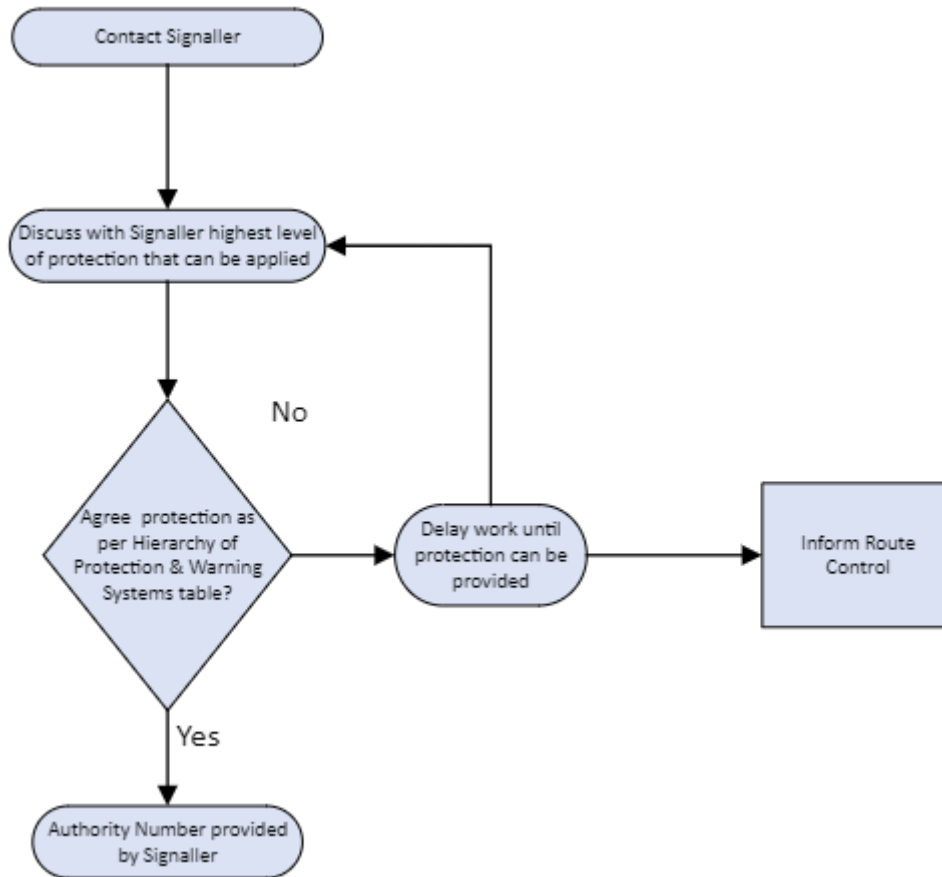

Figure 1 – Agree protection with the Signaller
- 2.4 In line with Figure 1, agree a level of protection with the Signaller and receive an authority number.
- 2.5 In line with Figure 1, delay works where a level of protection cannot be agreed and inform Route Control.